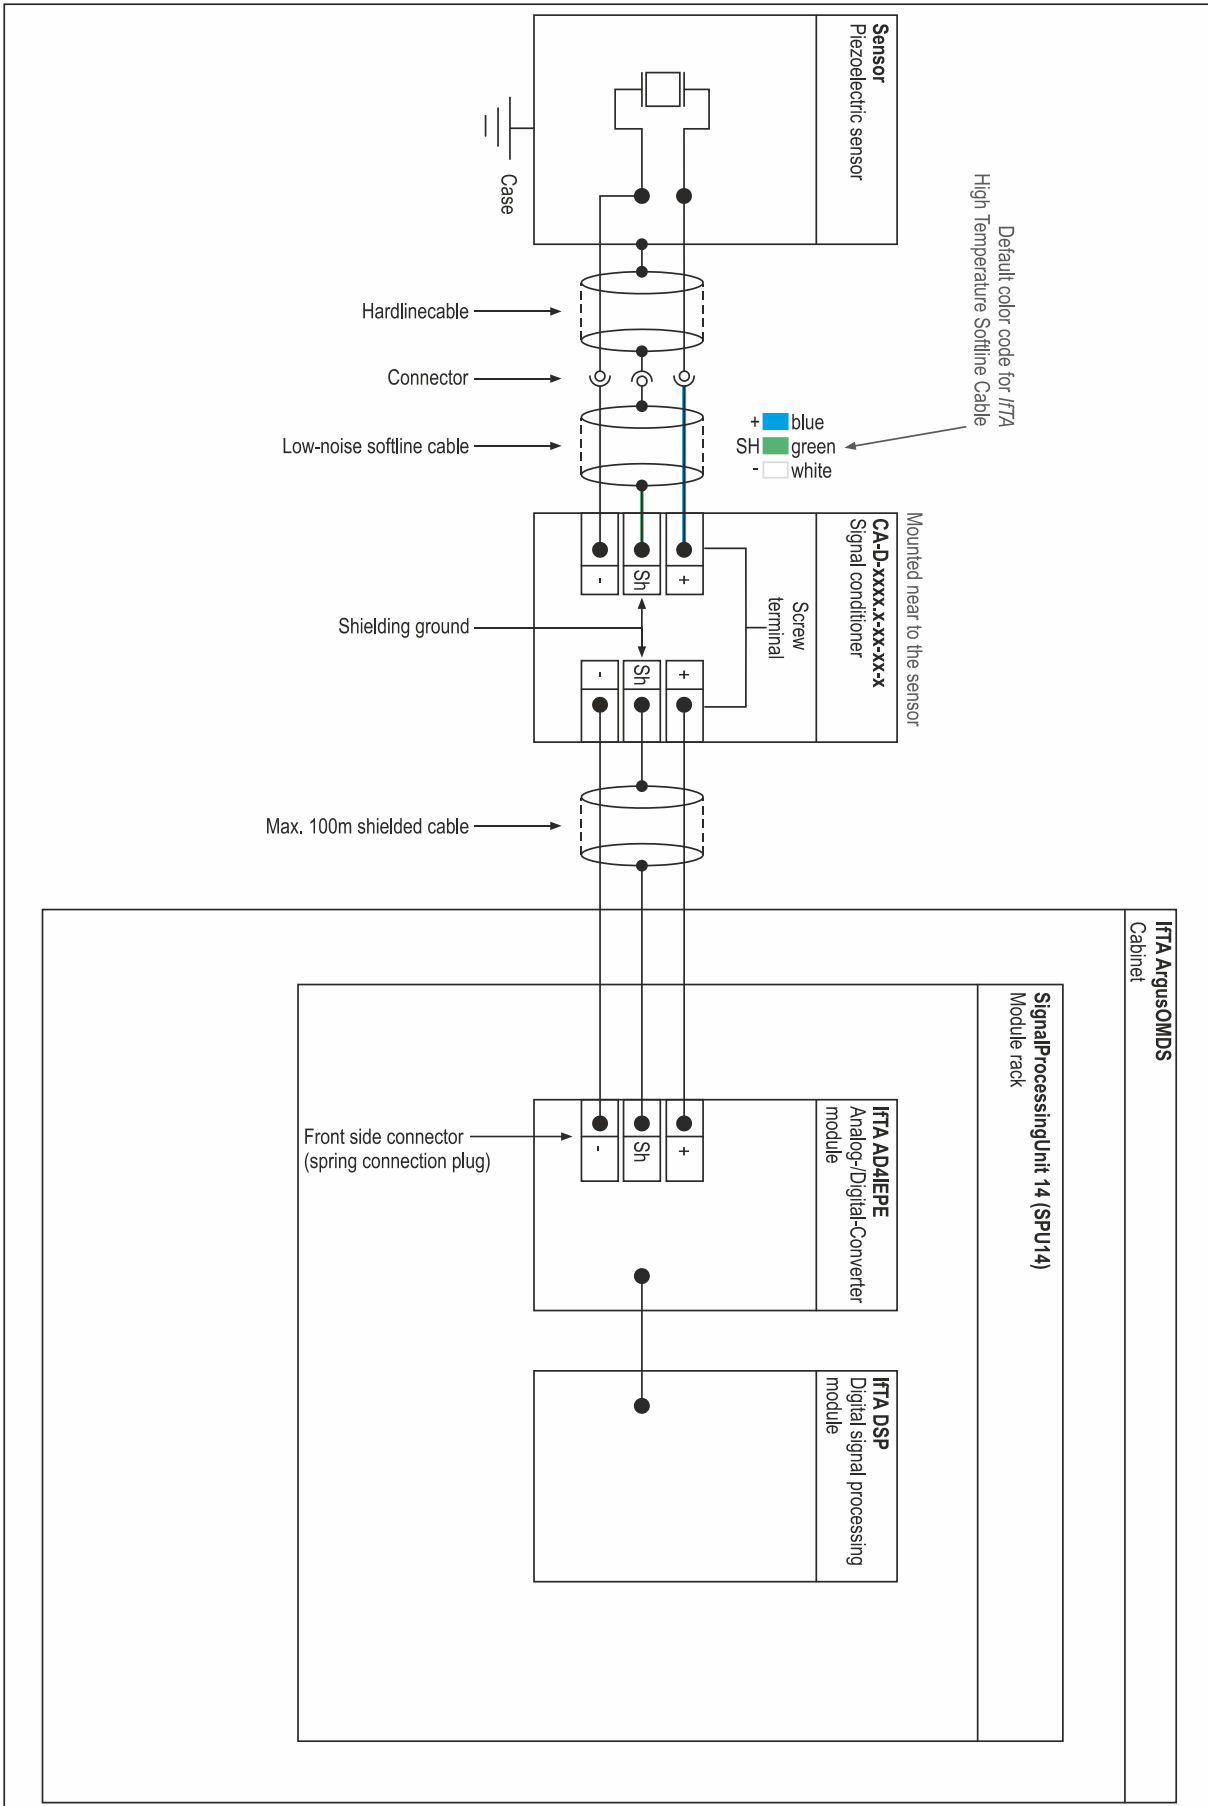
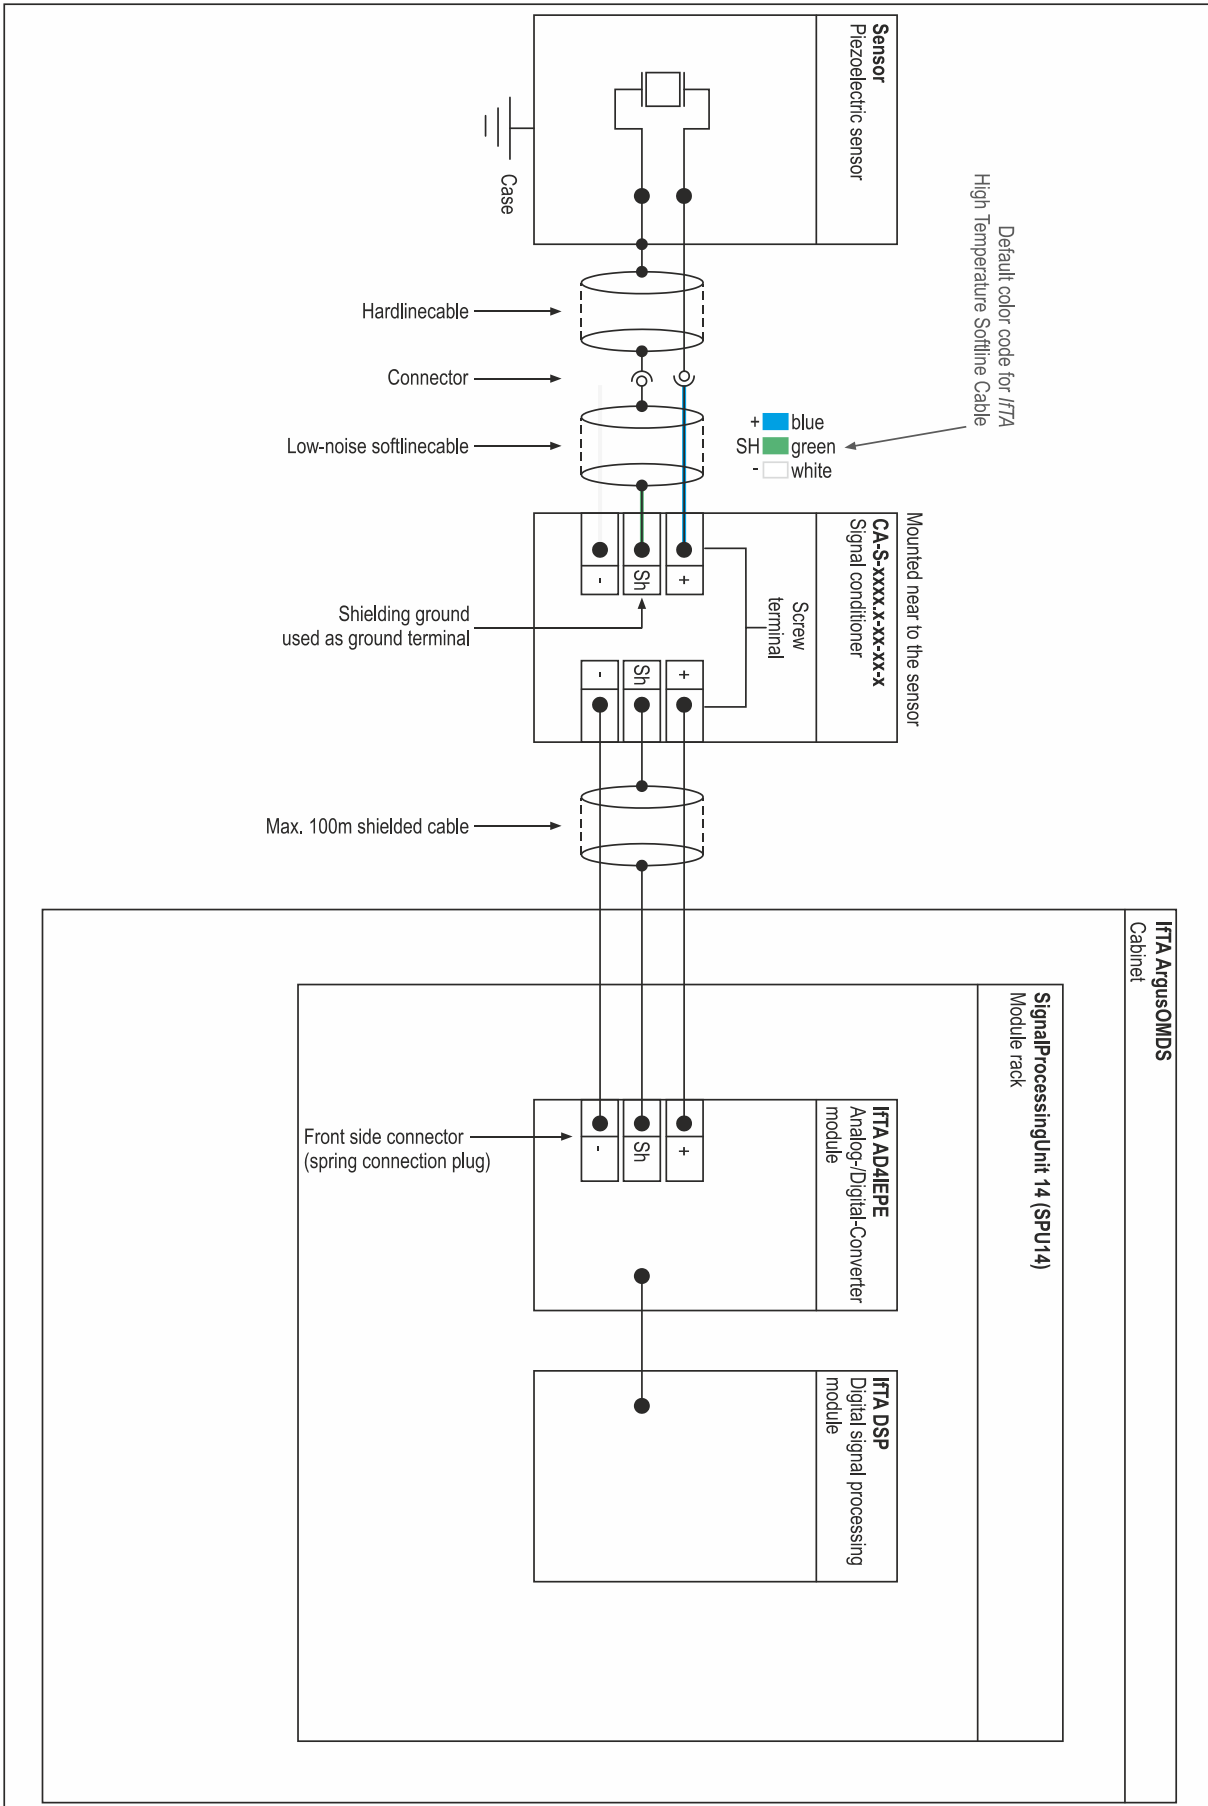

Figure 7: Schematics of the differential mode measurement chain (figure similar, subject to modification)
Figure 8: Schematics of the single ended mode measurement chain (figure similar, subject to modification)
3-pin screw terminal (the exact pin assignment is shown in Figure 7 and Figure 8)
For detailed information regarding the pin assignment see **Figure 7** and **Figure 8** below.
The CA is best used in a measurement setup with an **IFTA** system like the *ArgusOMDS*. This chapter includes two example configurations for both differential and single ended mode and the use with an *ArgusOMDS* system. The schematics are shown in the **Figure 7** and **Figure 8** below.
- (1) Ensure that the cable type is fitting the described specification above.
- (2) Connect the cable to the corresponding pin of the two screw terminals (the exact pin assignment is shown in *Figure 7* and *Figure 8*).
- (3) Install the cover of the industrial housing again.